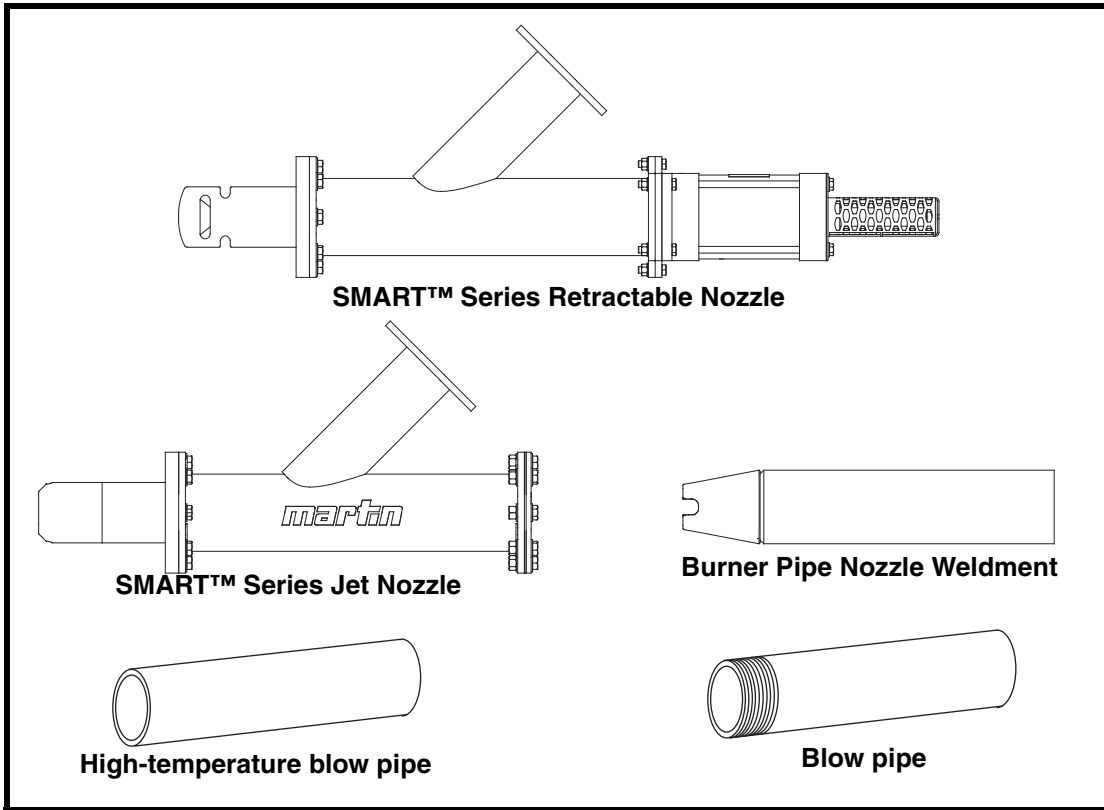

Figure 8. Mounting Nozzles/Pipes for High-Temperature Applications
d. Martin® SMART™ Series Nozzles and blow pipes (Fig. 8) should be used in applications where the internal vessel temperature exceeds 500°F.